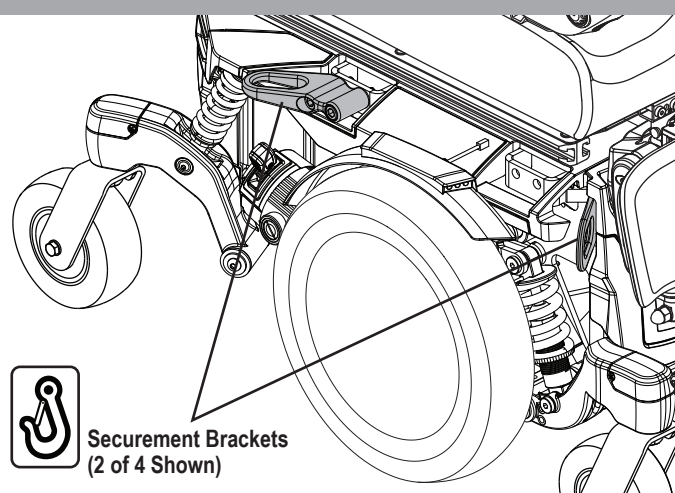

Figure 6. Transit System Securement Brackets
If your power chair is equipped with a transit securement system, it is equipped with manufacturer installed front and rear securement brackets and may be equipped with positioning belt anchoring brackets. See **figure 6**. Refer to the supplement provided with your power chair for information on how to use the transit securement system.
- Attach the four (4) tie-down straps to only designated, labeled transit securement points indicated by anchor symbols on the power chair. **See figures 6 and 7.** Tighten the straps sufficiently to remove all slack.